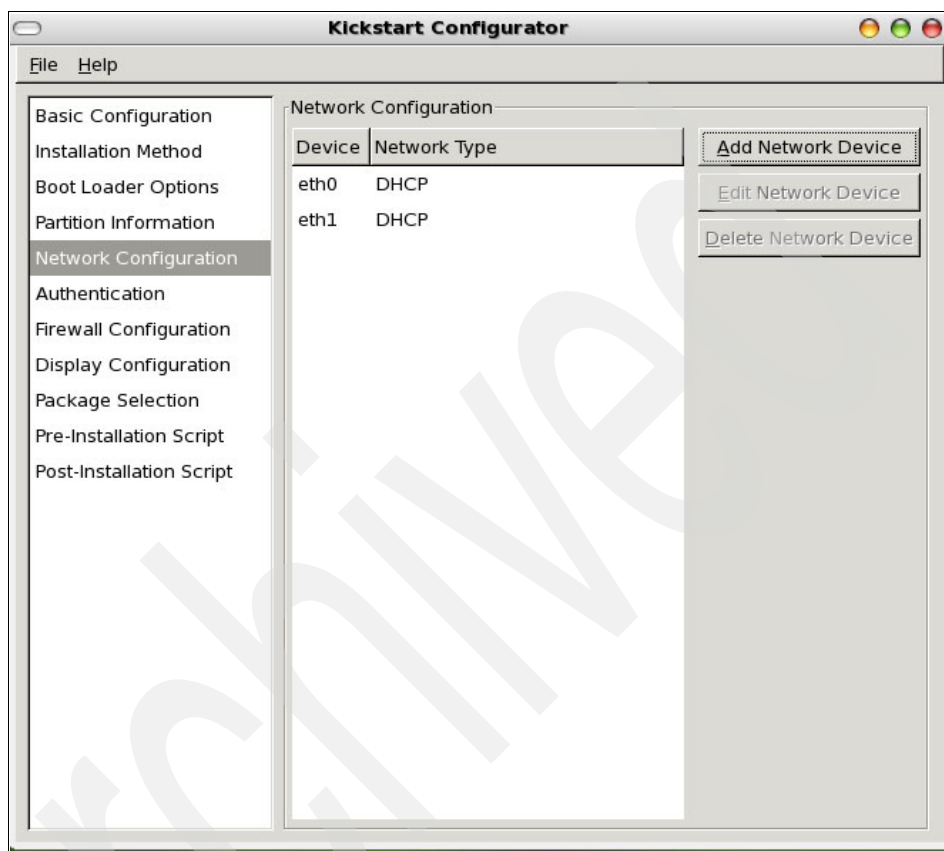

Figure B-4 Kickstart Configurator Network Configuration panel (©2008 Red Hat, Inc.)
5. In the Network Configuration panel, click **Add Network Device** to add the devices you are installing from. If you need to go back and make changes to this setup, click **Edit Network Device** (see Figure B-4).